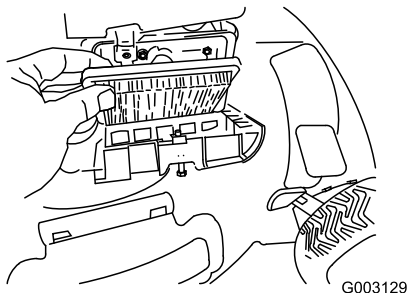

Figure 35
- Replace the air filter (Figure 35).